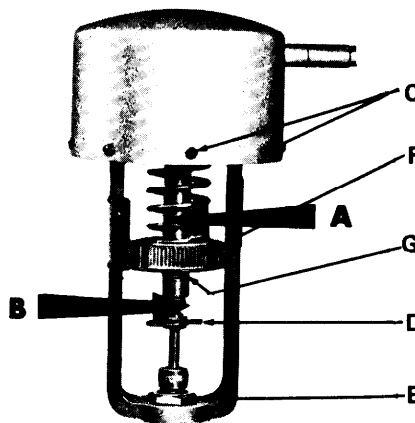

Figure 10
To RAISE temperature setting, turn adjustment wheel to LEFT (see arrow "A") (Fig. 10).
To LOWER temperature setting, turn adjustment wheel to RIGHT (see arrow "B") (Fig. 10).
NOTE: A locknut "G" with set screw is located under the adjustment wheel "F," Figure 10, which should be loosened to allow adjustment and tightened to maintain final adjustment.
#### 1. Removal of lock pin (D) – (See Fig. 10):
3. Loosen set screw and the locknut "G" located under the adjustment wheel "F" (Fig. 10).
4. Turn adjusting wheel to LEFT (see Arrow "A", Fig. 10) until adjusting wheel is all the way off the threaded adjusting stem.
5. Remove screws "C" (Fig. 10) and lift off element.
1. Remove lock pin (D) (Fig. 10). (Do not disturb lock nut connecting regulator stem to connector.)
2. Remove lock nut (E) (Fig. 10) and lift regulator frame off valve body.